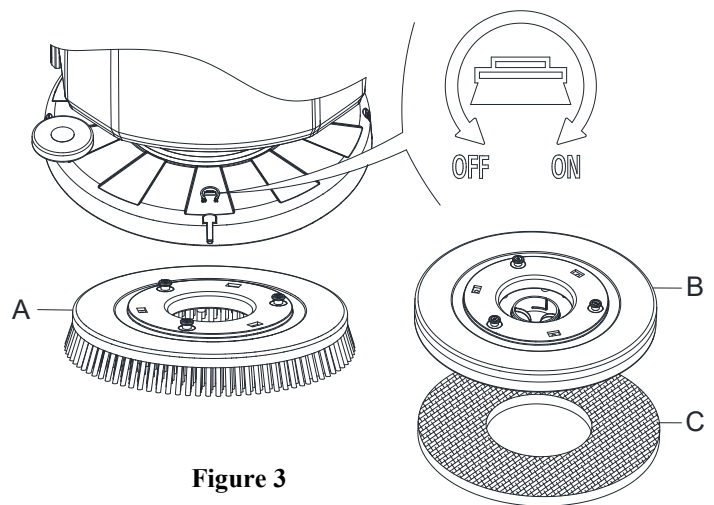

Figure 3
Install either the brush (A, Figure 3) or pad-holder (B and C, Figure 3) according to the type of floor to be cleaned.
3. Place the brushes (A, Figure 3) or the pad-holder (B, Figure 3) under the deck (12, Figure 1).
7. If Step No. 6 above proves to be difficult, use the manual method by turning the brush/pad-holder in the direction opposite to the normal turning direction (ON) to install the brush/pad-holder (as shown in Figure 3).